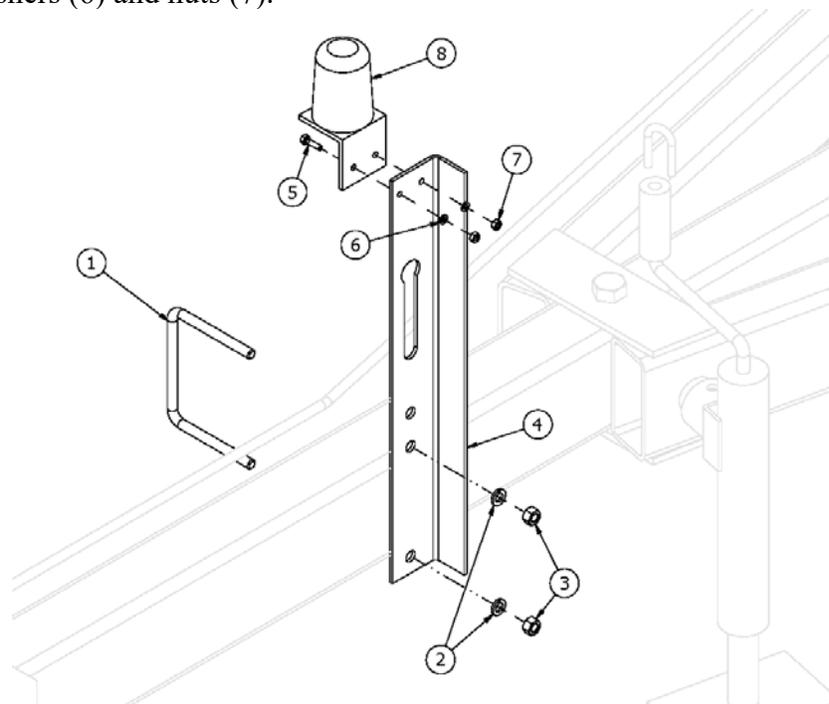

Figure 16
1. Attach the Center Bar to the Main Frame using 1 1/4 x 5 1/2 bolts and nylon jam nuts. Install the 4 x 8 cylinders as shown. A longer offset pin is required on the 116 models, Refer to Figure 16. Note that the 116 through 130 models are not trussed.
1. Attach the SMV sign Mounting Bracket (1) to the first lift arm left of center as shown in Figure 16, using 3/8 X 2 X 3 3/4 U-bolts (2) and locking nuts (3). Attach the SMV sign (4) to the Mounting Bracket (1) using 1/4 x 1 bolts (5), and locking nuts (6). When the unit is folded in transport position, be sure the SMV sign is aligned between the harrow section bars so that it is visible from the rear.